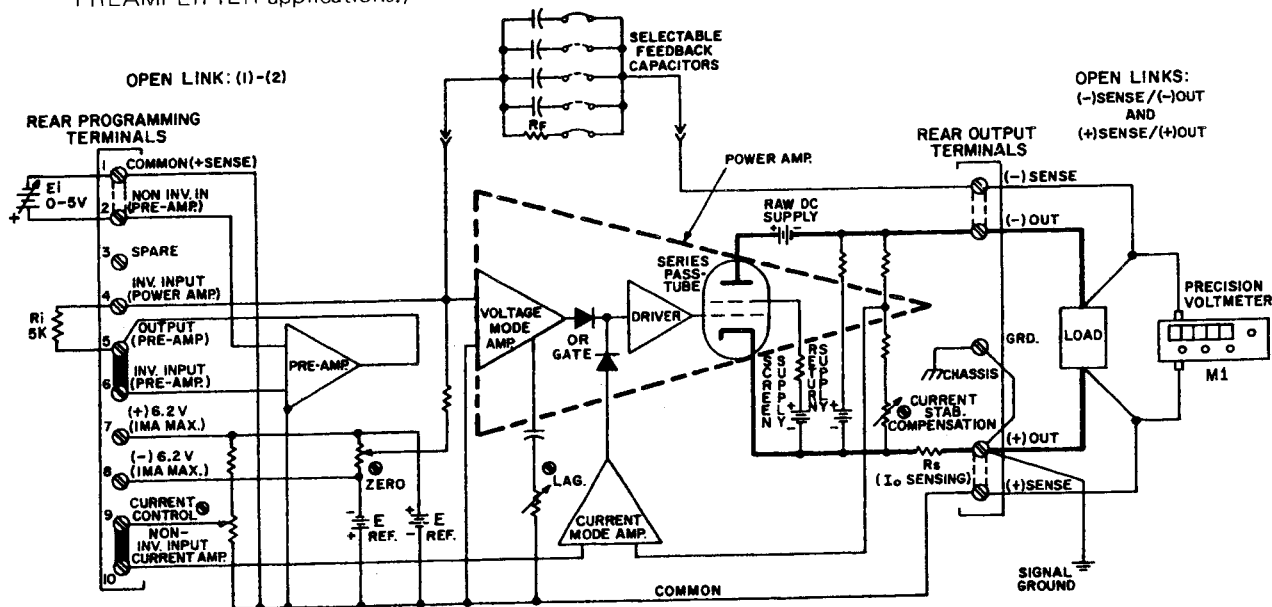

FIG. 3-4 CONNECTIONS FOR OUTPUT VOLTAGE CONTROL, USING AN EXTERNAL CONTROL VOLTAGE (REMOTE ERROR SENSING CONNECTIONS SHOWN).
- a) As a PRECISION, HIGH SPEED VOLTAGE SOURCE, the voltage control channel of the OPS is used to control the output either manually by means of an external potentiometer or a control voltage, or automatically, by means of digital input signals, using a Kepco SN Digital Programmer. Examples for some of these applications are given in FIGS. 3-4 and 3-7. The current control channel of the OPS serves as a "current limiter" in these examples.
- b) LOAD CONNECTION (II). The recommended load connection for all applications requiring minimum load effect across a *remote* load is shown in FIG. 3-4. A twisted, shielded pair of wires (No. 20 AWG minimum) are connected from the OPS "± sensing" terminals to the load. This "remote error sensing" technique will compensate for load wire voltage drops up to 0.5 volts per wire.
- 1) Connect the input source ( $E_i$ ), load and output voltmeter ( $M_1$ ) to the OPS as shown in FIG. 3-4. FOR INTERCONNECTION DETAILS AND SAFETY PRECAUTIONS, TURN TO THE "WARNING" PARAGRAPH ON PAGE 3-3.
- 1) Retain the basic programming circuit shown in FIG. 3-4, but replace the LOAD and the PRECISION VOLTMETER (M1) by a suitable ammeter. Turn OPS "on".